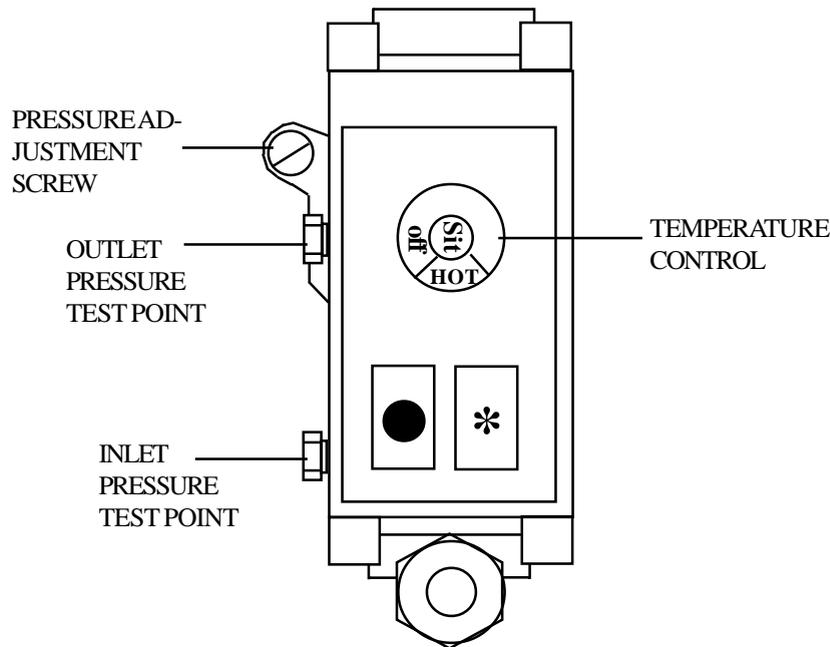

Fig. 5
- 5.5.1 Referring to fig. 5, remove the Inlet Pressure Test Point cover and connect a Gas Pressure Test Gauge.
- 5.5.5 Referring to Fig. 5 and Table 1 (para 2.1), set the Pressure Adjuster to provide the required setting pressure for the installation.